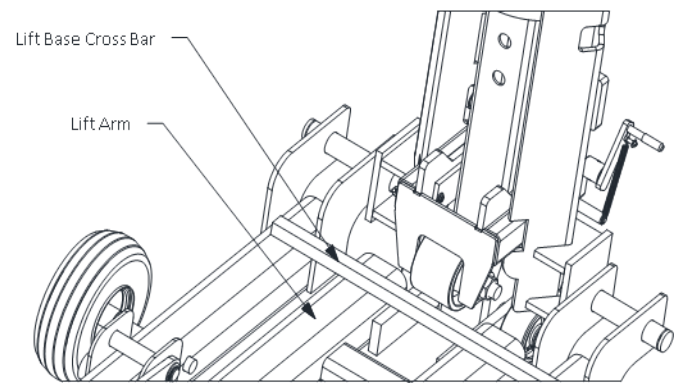

Figure 5
5. Lower the lift by actuating the Air Control Lever and exhausting the air from the cylinder. Be sure to operate the Air Control Lever slowly to bring the vehicle down in a controlled manor. Lowering the lift completely will reset the Down Stop Pawl automatically. The lift is fully lowered when the Lift Base Cross Bar contacts the Lift Arm, as shown in Figure 5.